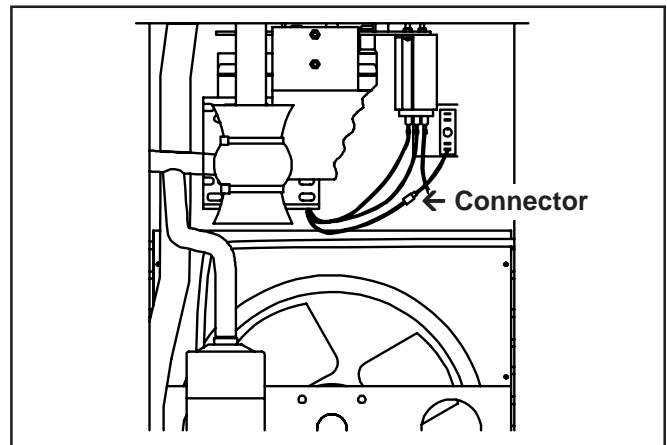

Figure 42. Disconnect Wire
3. Disconnect the wire leading from the drive motor to the reset switch on the front of the freezer (Fig.42),